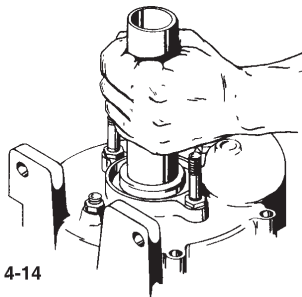

Figure 4-14
23. Install the seal cup with the face of the seal towards the rotating element. A short length of pipe will help to tap the cup down until it contacts the ring.(refer to figure 4-14)